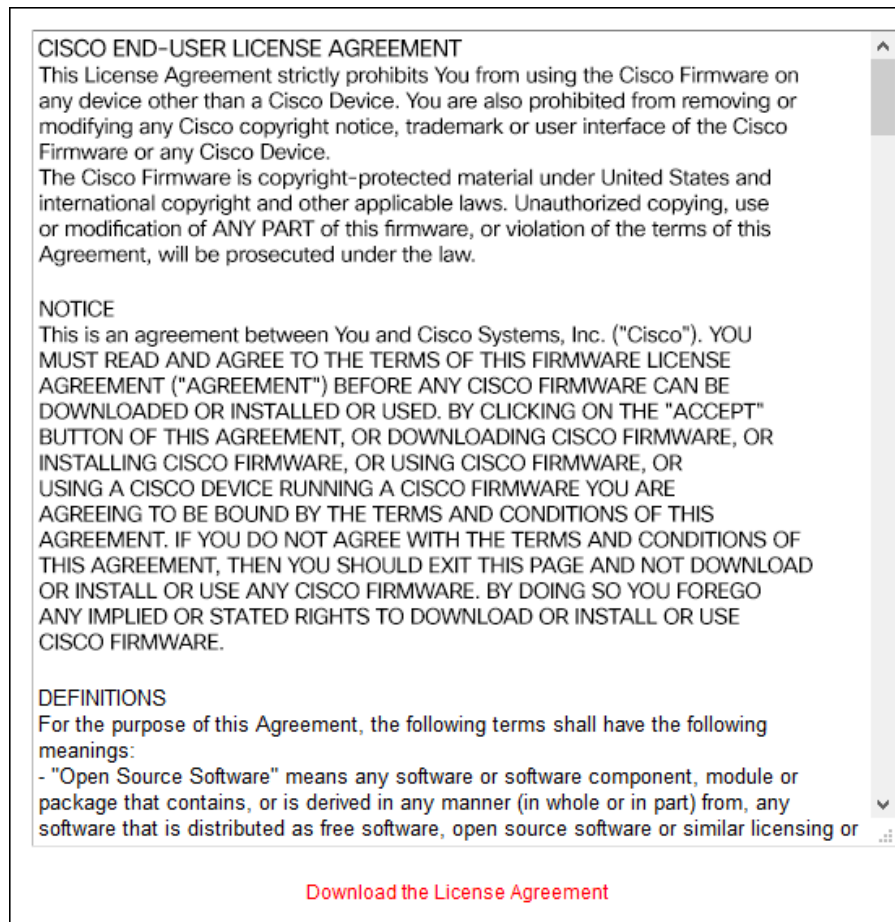

Figure 64. Configurator GUI (End-user license agreement)
- The license agreement dialog will be shown (Figure 64 \(page 139\)).